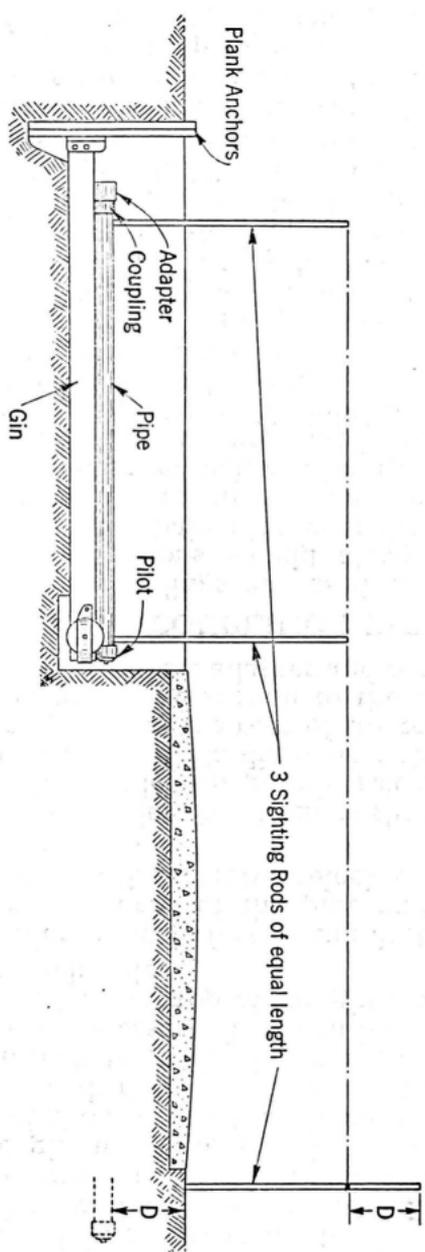

Fig. 4
8.01 The degree of success in attaining the desired direction of the pipe will depend in a very large measure upon the accuracy with which the pipe and gin are aimed before starting the push. A satisfactory procedure is to use three rods, such as duct rods, of exactly equal length. Hold two of them vertically with their lower ends resting upon the pipe, one near the rear end of the pipe and the other near the front end. Hold the third rod vertically, with its lower end resting upon the ground, over the point to which it is desired to push the pipe. Make a mark at a distance from the top of this rod equal to the distance desired between the top of the pipe and the ground surface at the point where the rod rests, as shown in Fig. 4. Sight along the tops of the two rods on the pipe toward the mark on the third rod. Shift the direction of the gin and elevate one end or the other as required until the tops of the two rods on the pipe are exactly in line with the mark on the third rod as indicated in Fig. 4. Block the gin securely in the trench so that this alignment will be preserved.